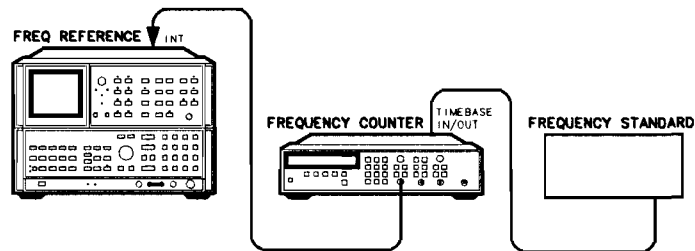

Figure 3-52. 10 MHz Frequency Standard Adjustments Setup
3. Connect the (Cesium Beam) Frequency Standard to the Frequency Counter rear-panel TIMEBASE IN/OUT connector as shown in Figure 3-52.
11. Position the spectrum analyzer on its right side as shown in Figure 3-52, and remove the bottom cover. Typically, the frequency of the A22 10 MHz Frequency Standard will shift slightly when the spectrum analyzer is reoriented. Record this shifted frequency of the A22 10 MHz Frequency Standard.